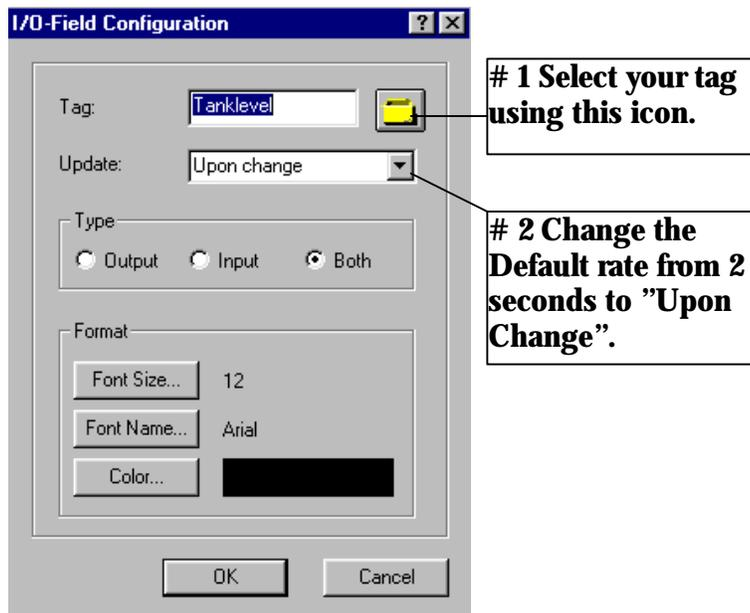

Figure 2.27 WinCC Project "QckStart"; Configuring an I/O Field
- Here you can select the tag by using the icon next to Tag text field. Select the "TankLevel" tag. Refer to Figure 2.27.